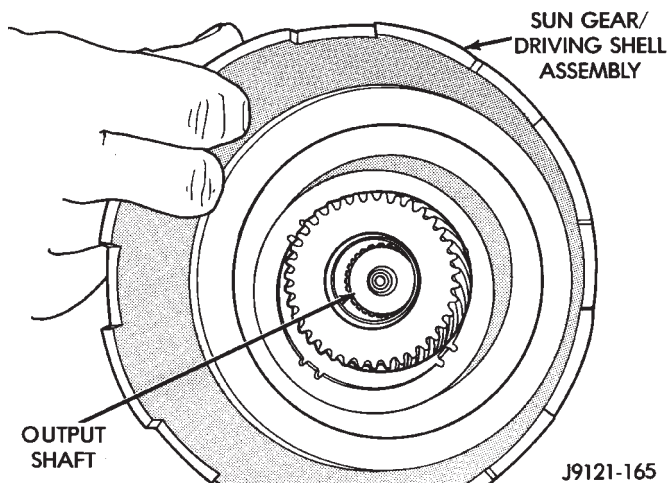

Fig. 157 Installing Assembled Sun Gear And Driving Shell On Output Shaft
(12) Install assembled driving shell and sun gear on output shaft (Fig. 157).